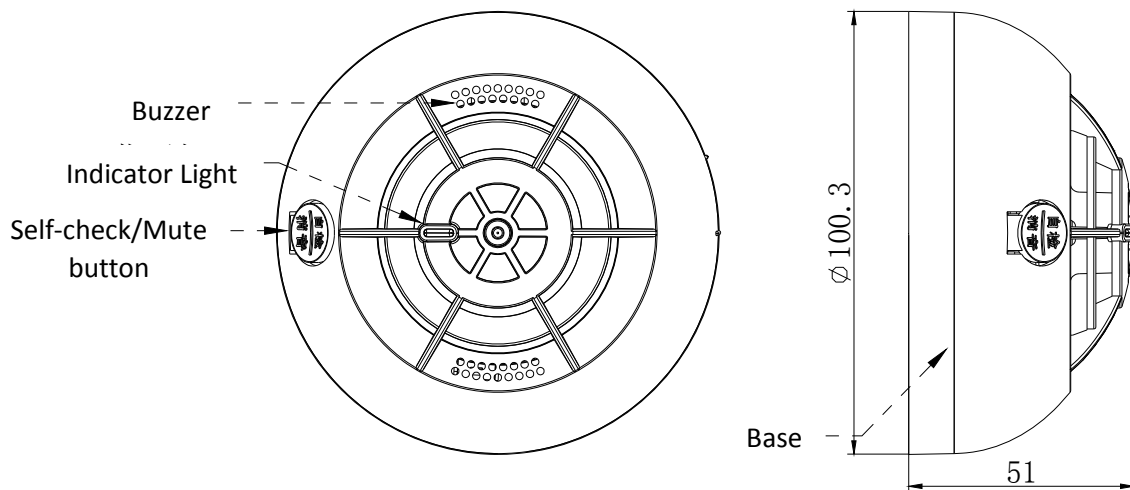

Fig 1 Product appearance diagram
4.1 Alarm outline dimension diagram as shown in Fig. 1 (unit: mm)